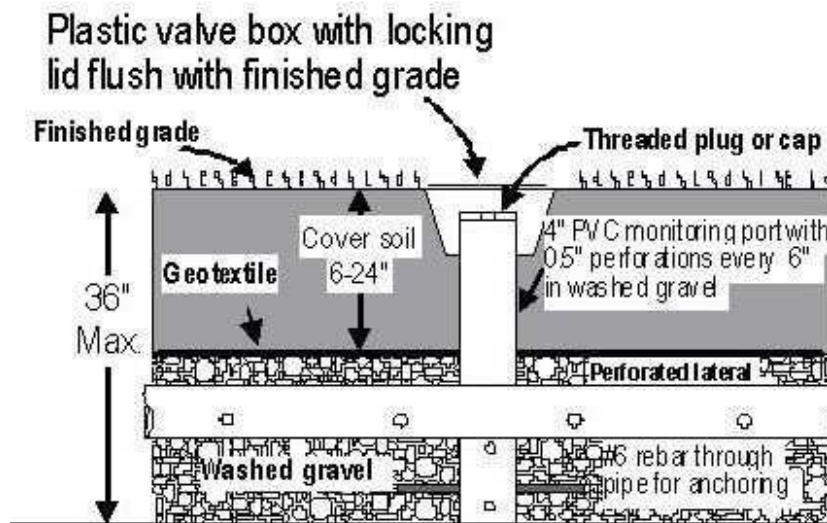
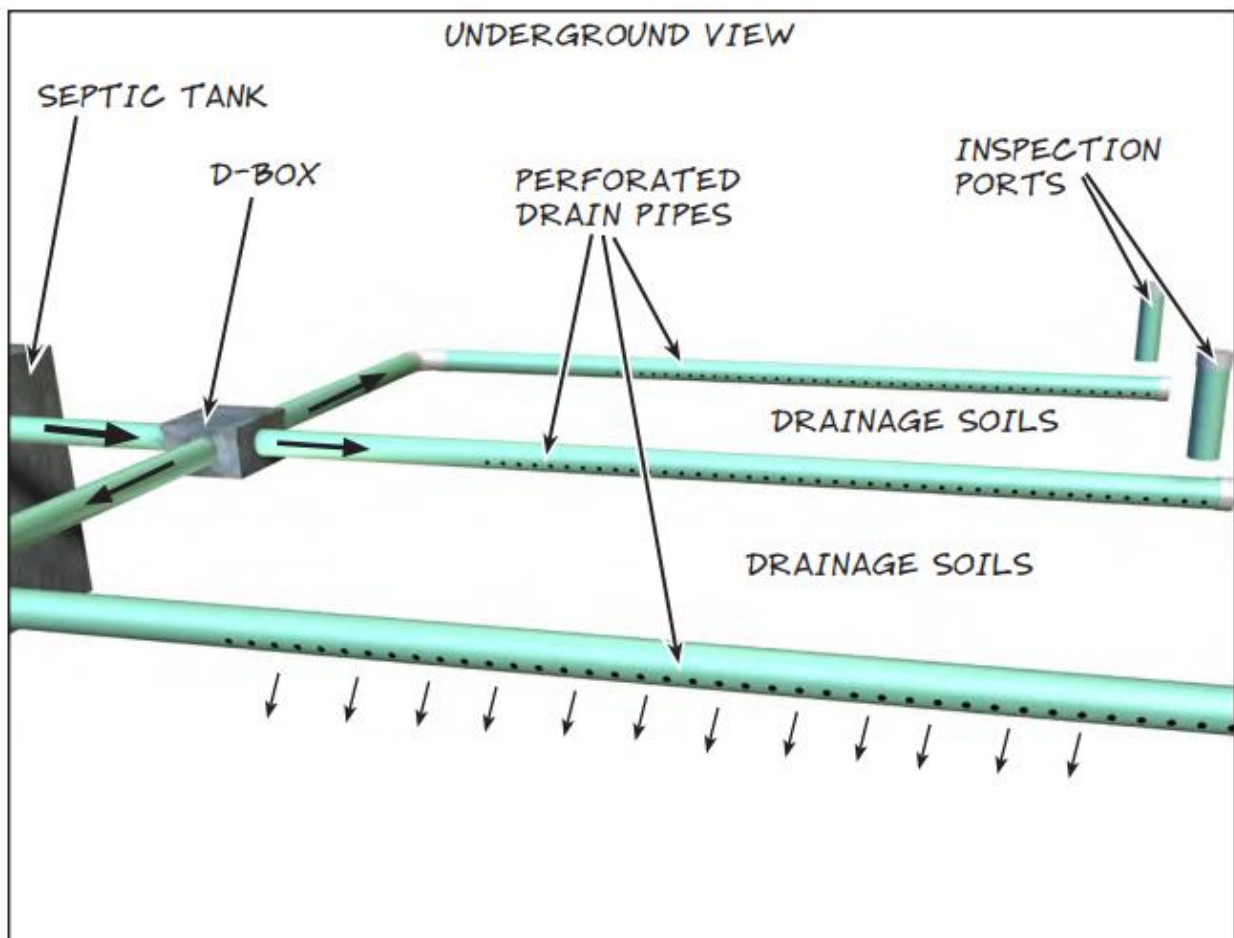

Figure 3: Monitoring Port Detail (Source: <http://www.doh.wa.gov/ehp/ts/ww/pubs-ww-rsg.htm>)
Figure 4: Drainfield Detail (Source: <https://www.doh.wa.gov/Portals/1/Documents/Pubs/337-122.pdf>)
- The perforated holes in the drain lines must be placed with holes in the 4 and 8 o'clock position (Figure 4).
- Monitoring ports should be included on every drainline within 10' from the end (Figure 3 & Figure 4).